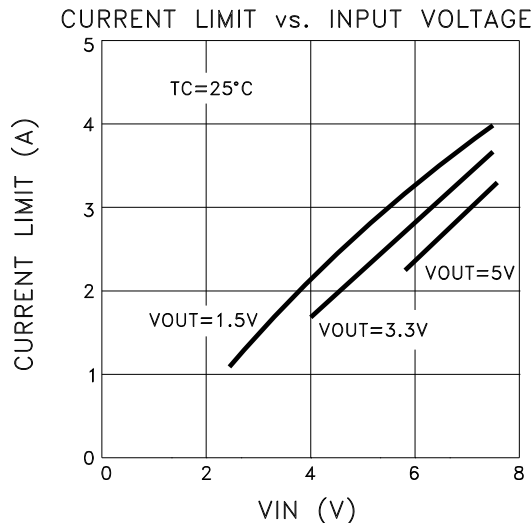

FIGURE 1
- ⑦ Output current limit is dependent upon the values of VIN and V_{OUT}. See Figure 1 and typical performance curves.
- ⑧ Minimum VIN at -55°C and I_{OUT} = 1.0A is 4.0V due to current limit circuitry.
- ⑨ Continuous operation at or above absolute maximum ratings may adversely effect the device performance and/or life cycle.
- ⑩ Pre and post irradiation limits at 25°C, up to 100Krad TID, are identical unless otherwise specified.
- ⑪ Reference DLA SMD 5962R05220 for electrical specifications for devices purchased as such.
The MSK5900RH current limit function is directly affected by the input and output voltages. Figure 1 illustrates the relationship between VIN and ICL for three output voltages.